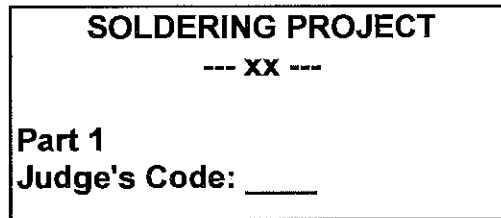

Figure 1
1. **Log On.** Observe the display on the Nida Model 130E Test Console. Ensure that it looks like the example shown in Figure 1. Verify that your contestant number replaces the [--- xx ---] shown in the example.